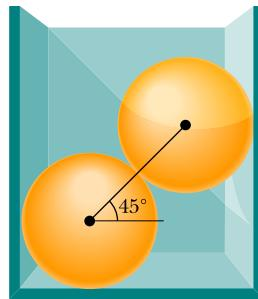

Figure 12.58 Problem 64.
**64** In Fig. 12.58, two identical, uniform, and frictionless spheres, each of mass  $m$ , rest in a rigid rectangular container. A line connecting their centers is at  $45^\circ$  to the horizontal. Find the magnitudes of the forces on the spheres from (a) the bottom of the container, (b) the left side of the container, (c) the right side of the container, and (d) each other. (Hint: The force of one sphere on the other is directed along the center-center line.)